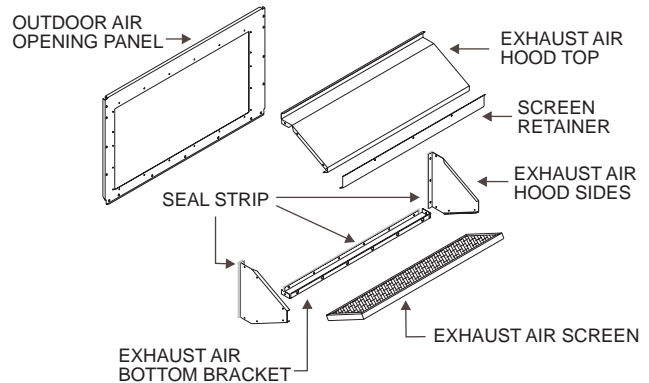

Fig. 27 — Exhaust Air Hood Assembly
Remove the EconoMi\$er hood from its packaging. Remove shipping brackets holding hood package to EconoMi\$er. Locate the outdoor-air opening panel. See Fig. 27. Remove hood assembly shipping brackets located on the back (sloped) side of the EconoMi\$er assembly. These brackets are used to retain the hood assembly during shipping only.
3. Install the 1/8 x 3/4-in. seal strip on the exhaust air hood side panels and the bottom bracket. Assemble the exhaust air hood to the outdoor-air opening panel as shown in Fig. 27, using the screws provided. *Do not attach hood assembly to unit at this time.*